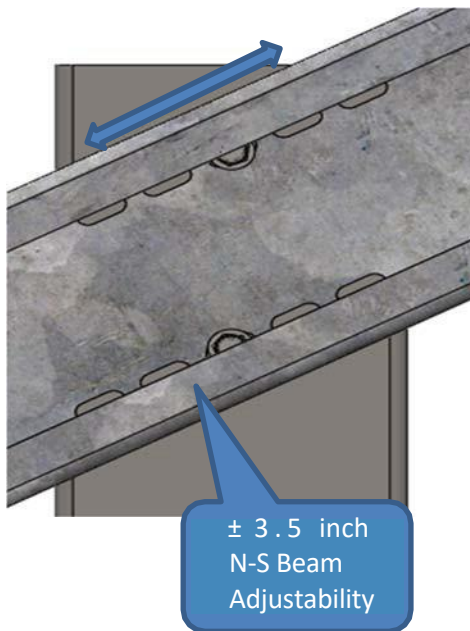

Fig. 7-2
- North – South Beam:  $\pm 3.5$  inches (89 mm) (Fig. 7-2)